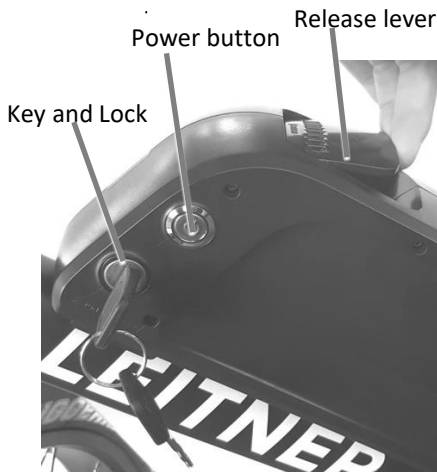

Figure B1.
- Push the **power button (Figure B1)** to switch the battery ON, then push the **black button (1)**. 4 lights (3 green, 1 red) mean the battery is full. As the battery discharges, fewer lights will be illuminated.